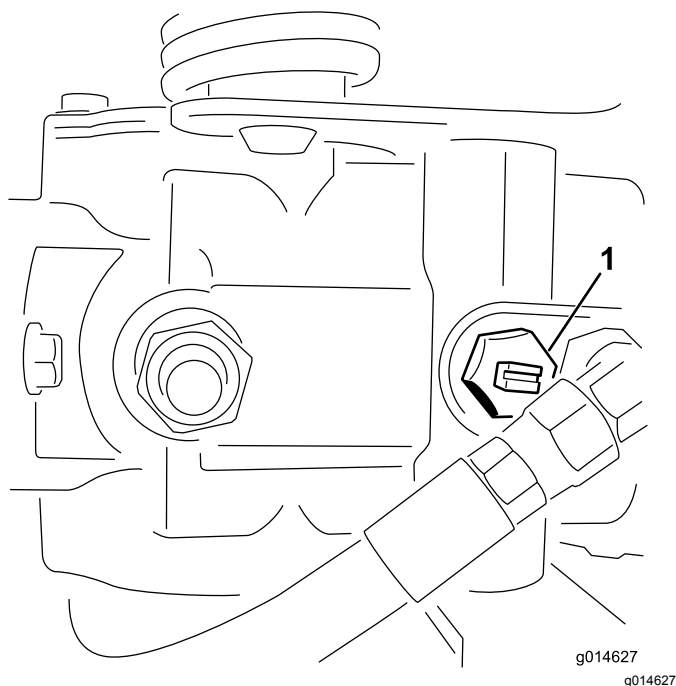

Figure 40
1. Locate the bypass valve on the pump and rotate it so that the slot is vertical (Figure 40).
2. Before starting the engine, close the bypass valve by rotating it so that the slot is horizontal (Figure 40). Do not start the engine when the valve is open.